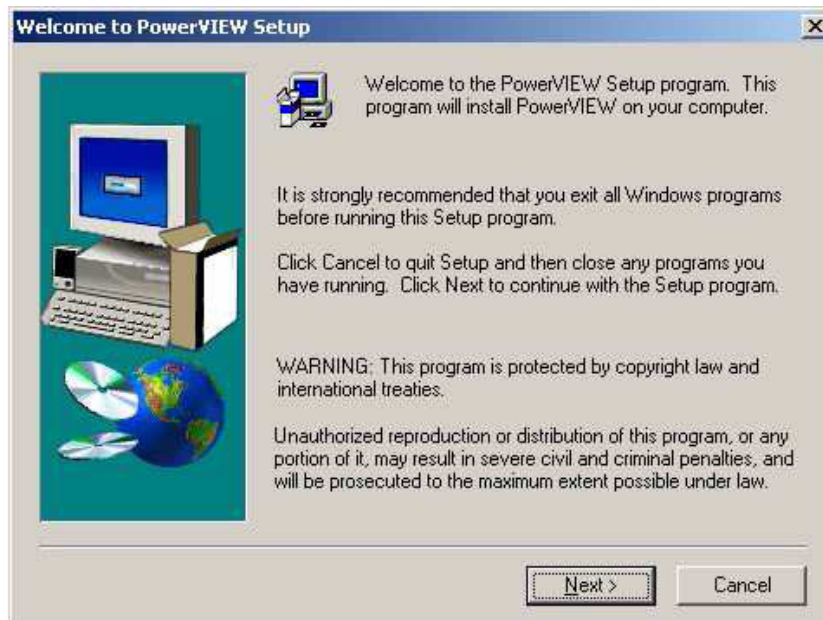

Figure 4-1. 1st Screen of Installation Program
1. Insert an installation CD with NORMA View software into your CD-ROM driver and wait for auto start, then follow the instruction on the monitor, as shown in Figure 4-1.